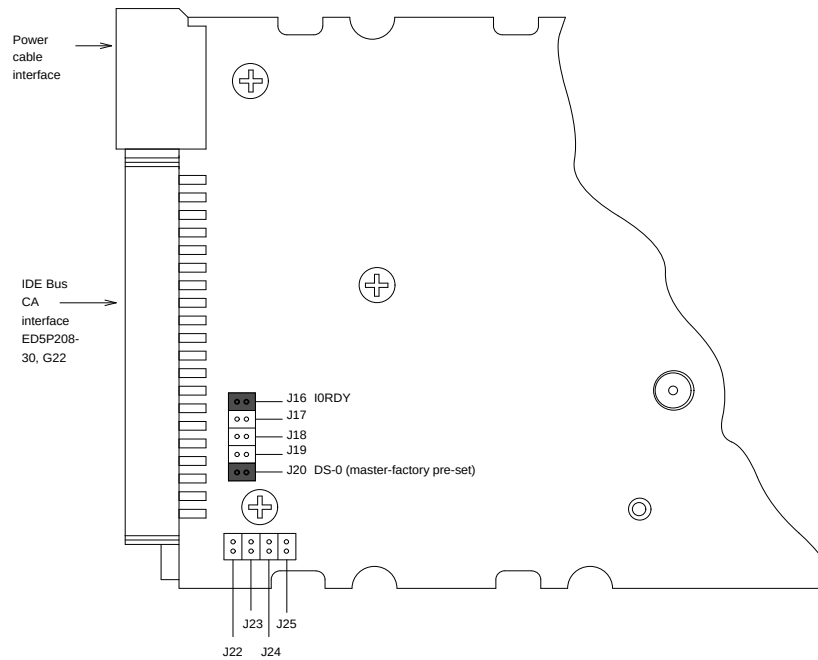
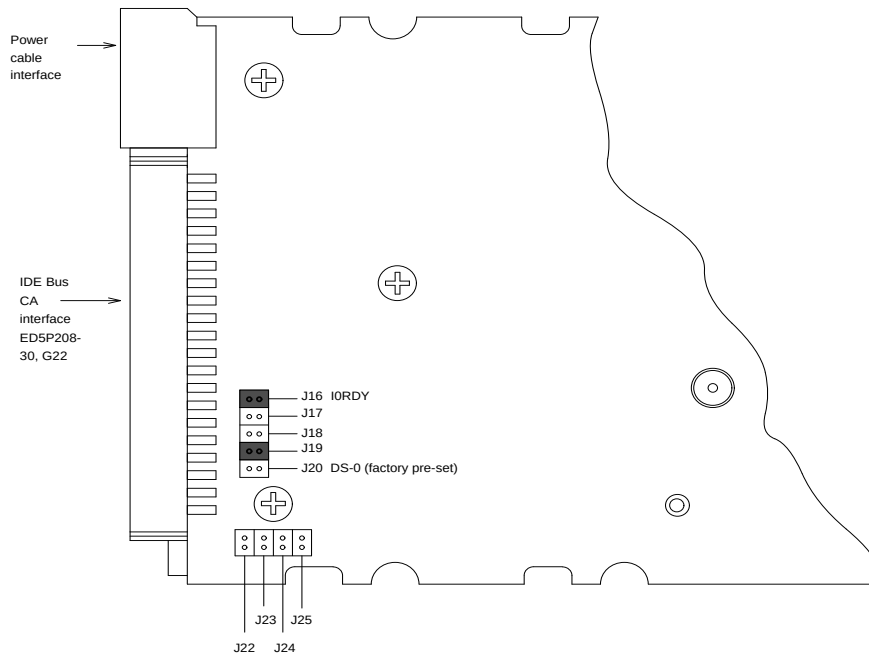

Figure C-18. Position 4 HDD Jumper Selection
Figure C-19. Position 3 HDD Jumper Selection
2. Verify that jumper J20 for Drive Select 0 (DS-0) (Position 4 HDD) as shown in Figure C-18, or jumper J19 for Drive Select 1 (DS-1) (Position 3 HDD) as shown in Figure C-19 is properly set.
4. Verify that no jumpers other than those shown in Figure C-18 or Figure C-19 are used.
- The four backplane LEDs, (CR1 through CR4) shown in Figure C-19, are all lit to show that the appropriate voltages are being applied to the backplane.